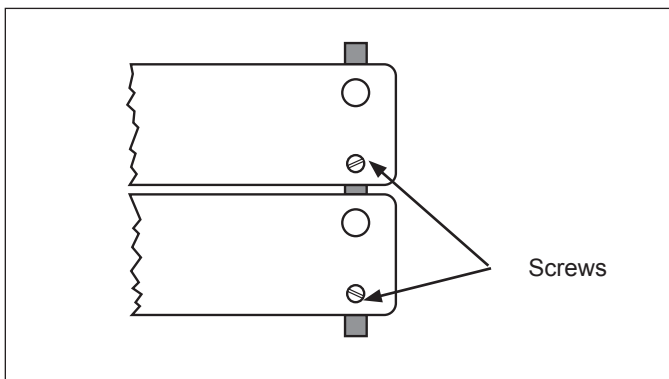

Figure 9. Master Links
2. Apply **McD[®] Heavy Duty Degreaser (HCS)** on a **clean, sanitizer soaked grill cloth**. Wipe the exposed part of the Conveyor Belt with the grill cloth from side to side. master links for reference (Figure 9).